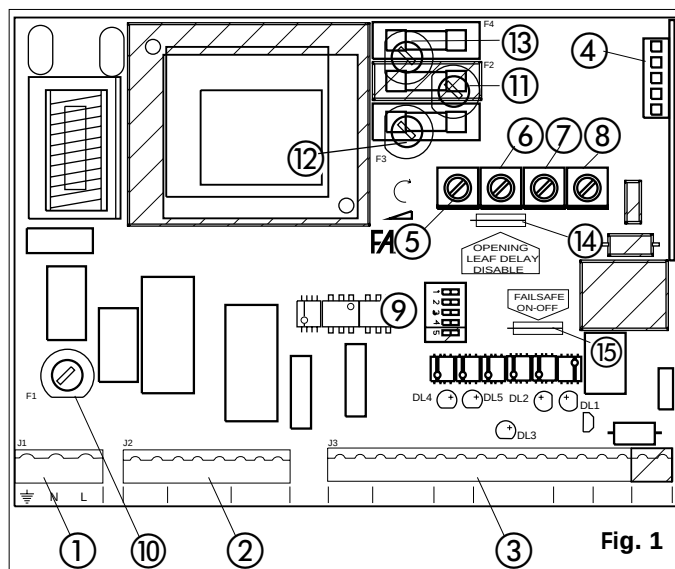

Fig. 1
Fuses	N. 4 (see fig.1)
The 450 MPS card has an additional FAIL-SAFE device which serves to check that the N.C. contact on the photocell receiver is working efficiently before any operation (Can be disabled through bridge Fig. 1 ref.15) .